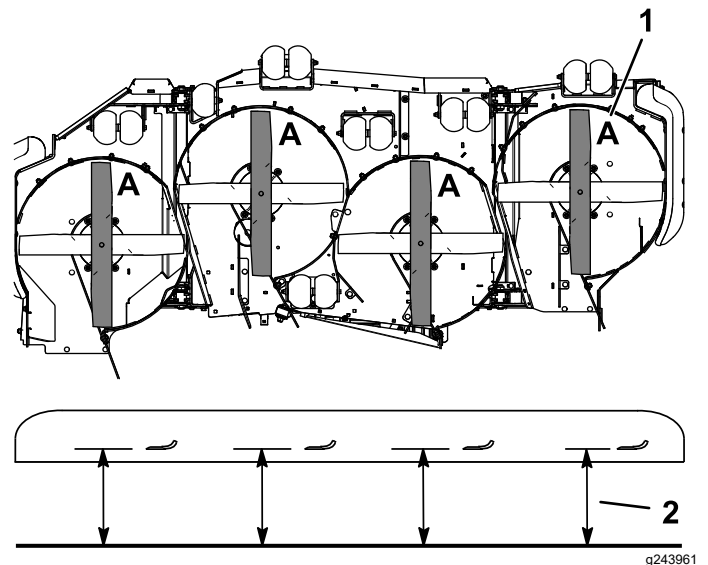

**Figure 70**
1. Inspect the cutting edges (Figure 70).
4. If you notice any cracks, wear, or a slot forming in this area, immediately install a new blade (Figure 70).